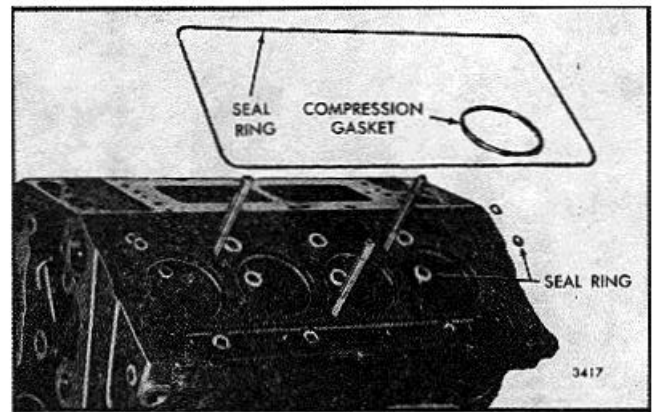

FIG. 16 - Cylinder Head Seals and Gaskets
1. Refer to Fig. 16 and install the water and oil seal rings and compression gaskets as follows: